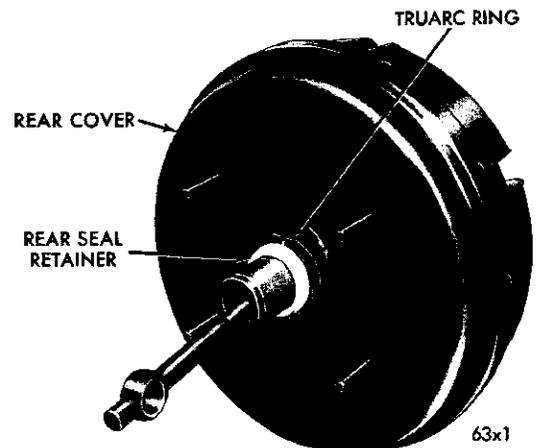

Fig. 26—Rear Seal Retainer
- (7) Remove the ten front and rear housing attaching screws.
- (8) Using a plastic or rubber hammer tap the outside edge of the rear vacuum housing and separate the housings.
- (9) Remove the large snap ring from the rear seal retainer, (Fig. 26) and remove the diaphragm, valve housing assembly and rear seal from the rear housing.
- (10) Using a screw driver pry out the large retain-
- (1) Install the "O" ring on the outside diameter of the valve body.
- (2) Install the two "O" rings, and seal on the plunger assembly.
- (3) Install the cushion ring on the plunger assembly.
- (4) Install the rear seal into the rear seal retainer with the lip of the seal toward the small end of the retainer.
- (5) Install the "O" ring on the outside diameter of the rear seal retainer.
- (6) Insert the rear seal retainer assembly into the hub of the rear cover.
- (7) Holding the seal retainer in place invert the cover over a large socket to support the seal retainer in place.
- (8) Apply downward pressure on the rear cover and install the retainer ring (Fig. 26).
- (9) Install the plunger assembly into the valve body.
- (10) Install the valve into the valve body with the rubber insert contacting the valve seat.
- (11) Install the load ring onto the plunger with the concave face out.
- (12) Press downward on the valve body and insert